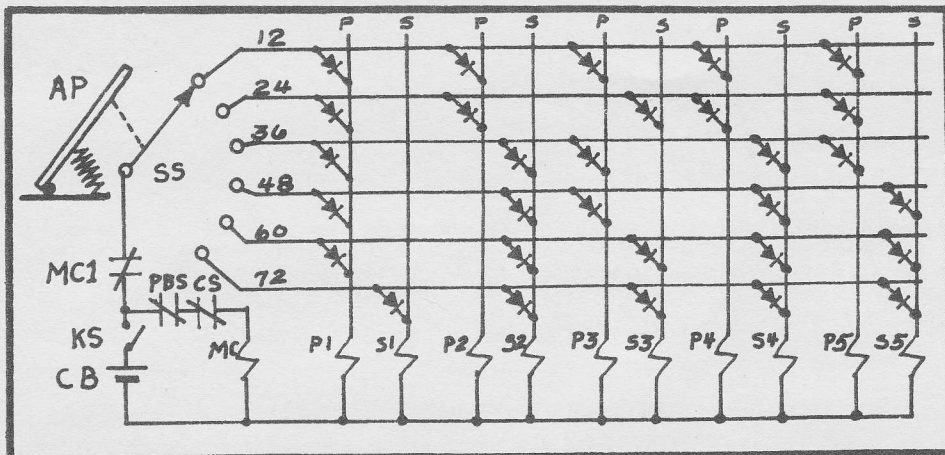

FIGURE 3. CONTROL CIRCUIT
Figure 3 shows the circuit which determines which contactors are in the parallel or series position and thereby determines the voltage which the battery supplies to the motor. The accelerator pedal (AP) operates a selector switch (SS) which applies control voltage to any one of 6 input busses of the steering diode matrix. Diodes on the matrix connect the input busses to either "P" or "S" output busses to determine which parallel and series contactor solenoids (P1-P5 and S1-S5) are energized when each input bus is energized. The diodes "steer" control voltage to the desired coils for each accelerator pedal / voltage position and prevent voltage feedback.
Note, in the lower left corner of Figure 3, the control battery (CB), the key-switch (KS), and a normally closed interlock (MCI) on the main contactor in series with the selector switch. Note also the parking brake switch (PBS) which is closed when the parking brake is released and the clutch switch (CS) which is closed when the clutch pedal is released (clutch engaged). These two switches are in series with the coil of the main contactor. The clutch switch serves to deenergize the main contactor to close it's interlock so the battery switching contactor coils can be energized only when the main contactor is open. This prevents arcing and burning the contacts, as mentioned above.